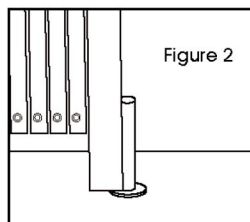

Figure 2
- Have a helper extend the gate and stand it upright where it will be mounted. Drill 3/4" diameter x 3" deep hole, 1/4" from wall into the floor for gate pin to set into. Place a bearing washer over floor hole and set bottom gate pin into floor mount hole. (See Figure 2)